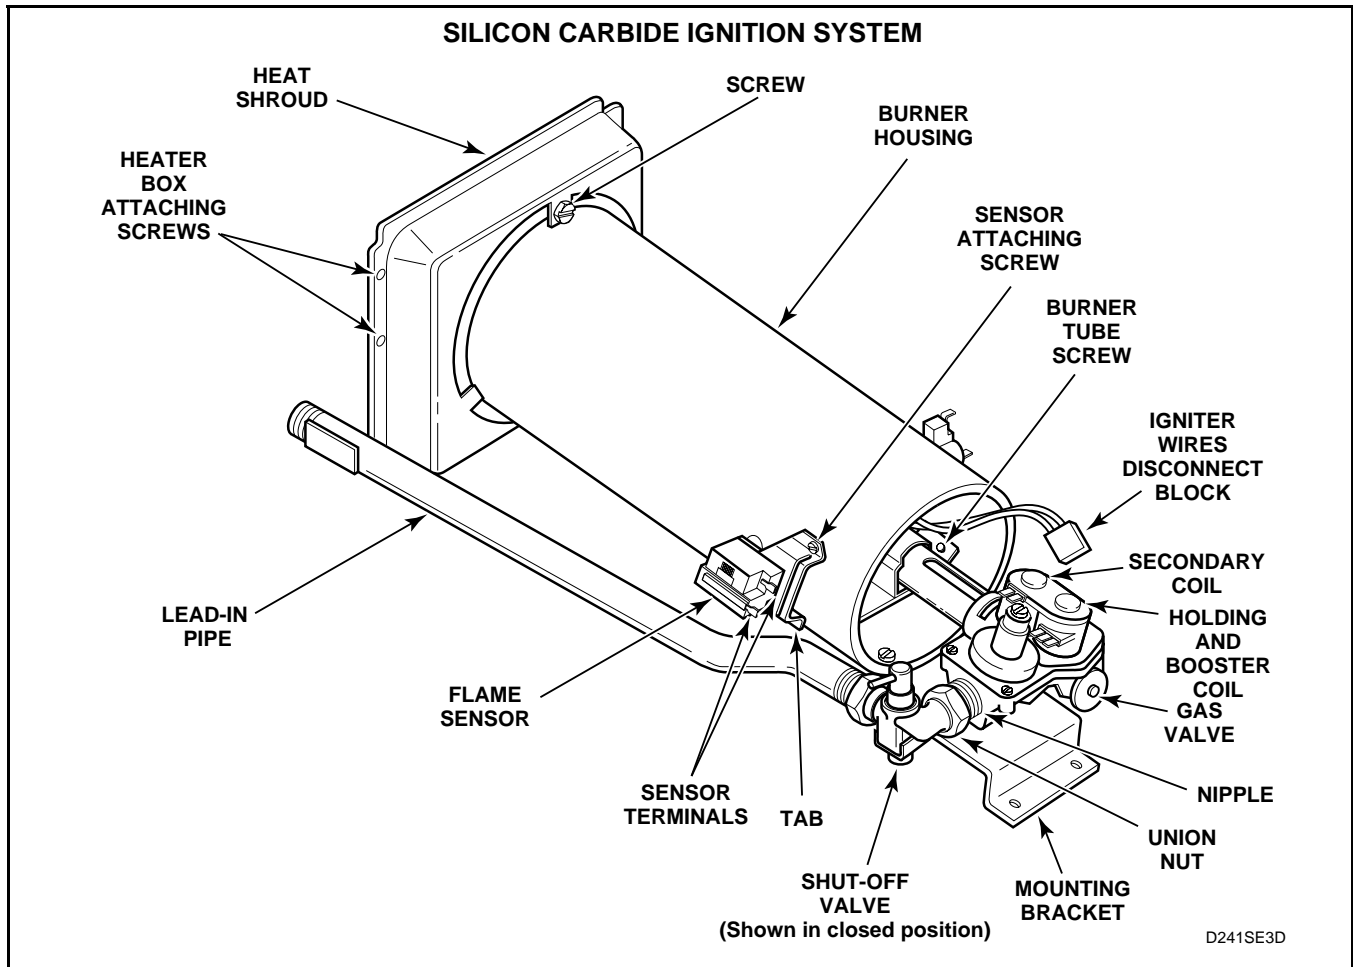

Figure 37
- (4.) **Silicon Carbide Ignition:** Disconnect igniter wires at disconnect blocks, sensor wires from flame sensor terminals, and wires from gas valve coils at the quick disconnect blocks. See Figure 37.
- (5.) Disconnect gas shut-off valve from gas valve at the union nut. See Figure 37.
- (6.) Remove three screws holding valve and mounting bracket to base. See Figure 37.
- (7.) Lift gas valve and mounting bracket from base. See Figure 37.
- Silicon Carbide Ignition:** Disconnect igniter wires at disconnect blocks, sensor wires from flame sensor terminals, and wires from gas valve coils at the quick disconnect blocks. See *Figure 37*.